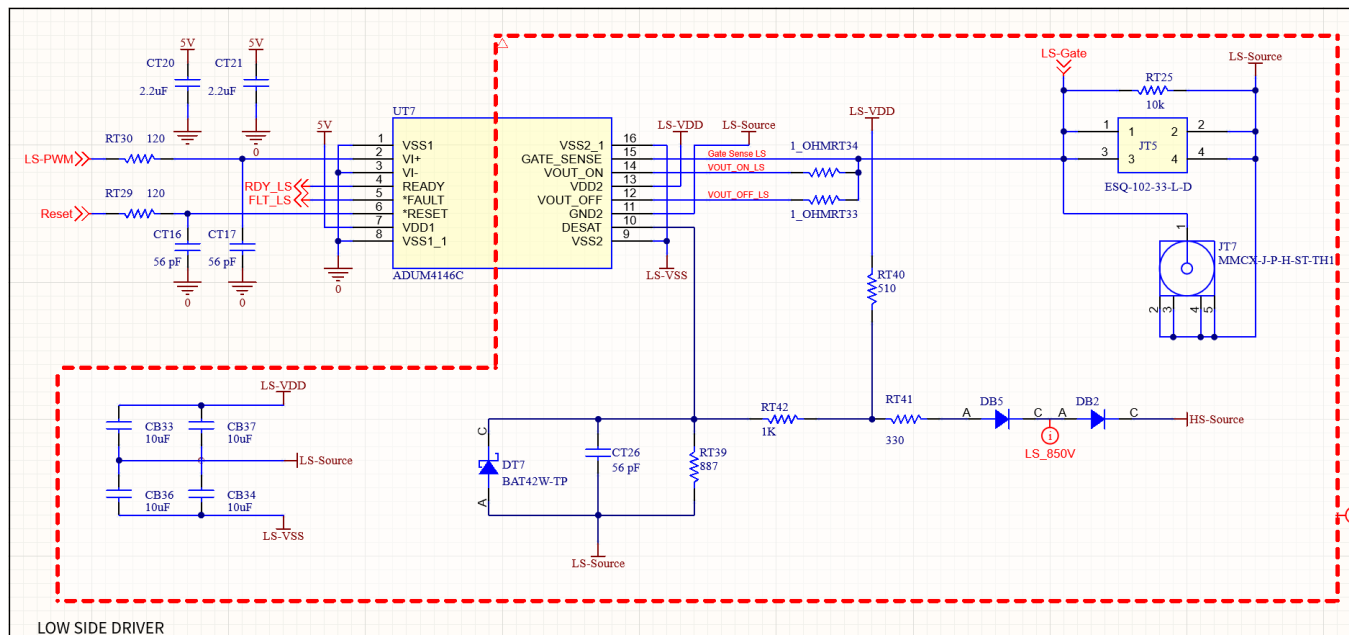
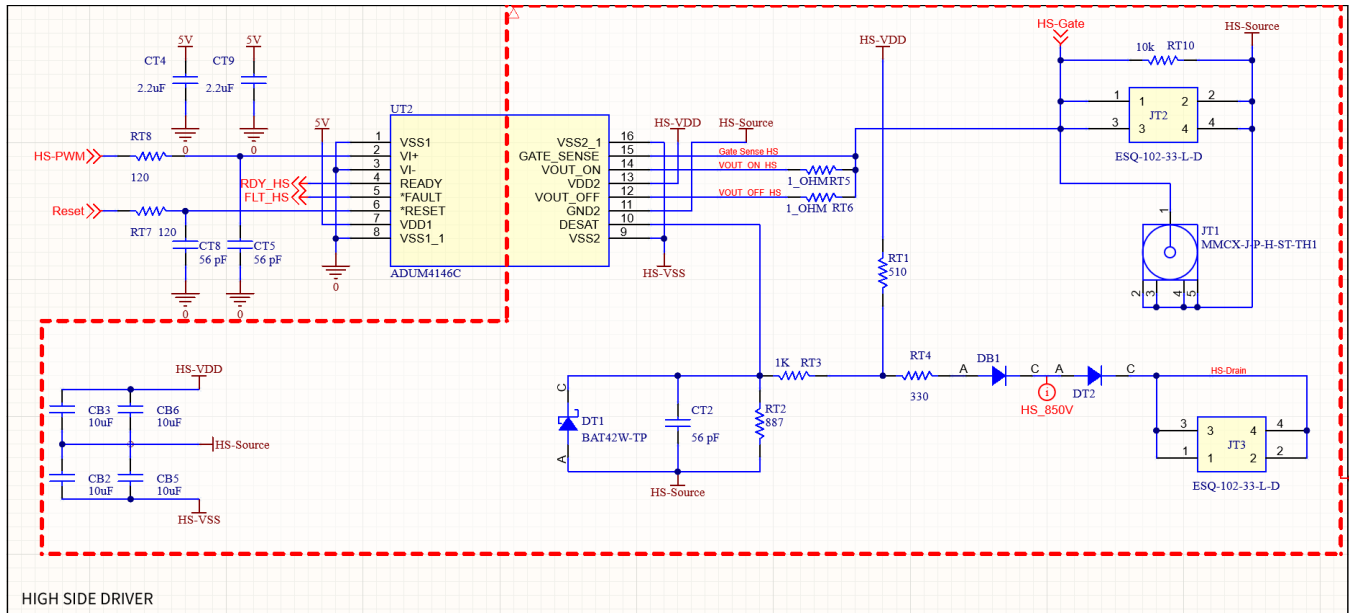
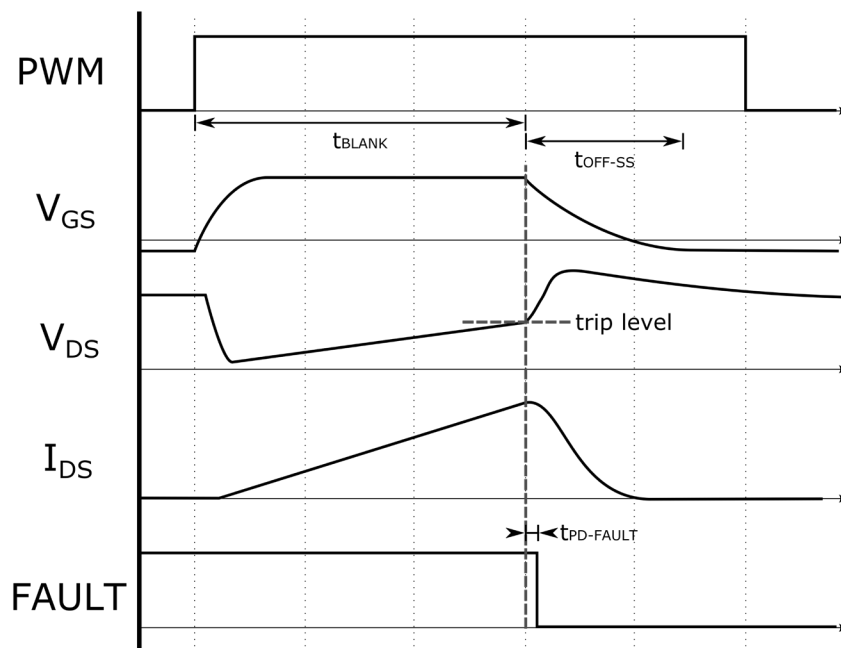
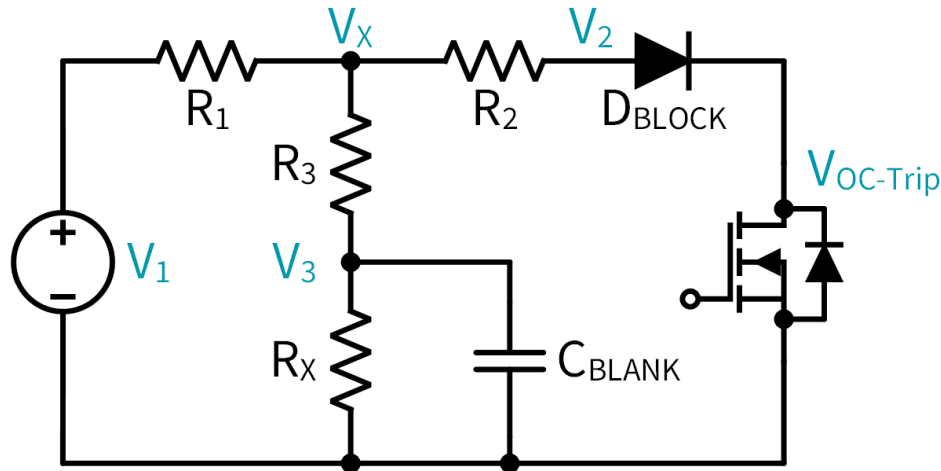

Figure 19: Low-side gate driver circuit with overcurrent protection
Figure 20: High-side gate driver circuit with overcurrent protection
Figure 21: Overcurrent fault timing diagram
Figure 22: Notional overcurrent fault circuit
An overcurrent (OC) fault is an indication of an overcurrent event in the SiC power module. The overcurrent protection circuit, shown in Figure 19 for the low-side and in Figure 20 for the high-side, measures the drain-to-source voltage ( $V_{DS}$ ), and the fault will indicate if this voltage has risen above a level corresponding to the safe current limit. When a fault has occurred, the corresponding gate driver channel will be disabled, and the gate will be pulled down through a soft-shutdown resistance,  $R_{SS}$ . The drain-source limit can be configured through onboard resistors. The overcurrent fault is latched upon detection and must be cleared by the user with a high pulse of at least 500 ns on the *RESET* signal. The various timing and voltage trip levels presented in Table 2 and Section 4.4.4 are defined notionally in the timing diagram shown in Figure 21.
The OC fault detection circuit, shown in Figure 19 and Figure 20, measures the on-state  $V_{DS}$  across each switch position and triggers a fault condition if the voltage rises above the predefined set level. The circuit is simplified into the notional diagram shown in Figure 22. Referring to this figure, the intermediary voltages  $V_2$  and  $V_X$  and the trip resistor,  $R_X$ , can be calculated using the following equations:
$V_2$ : intermediate voltage shown in Figure 22 [V]
$V_x$ : intermediate voltage shown in Figure 22 [V]